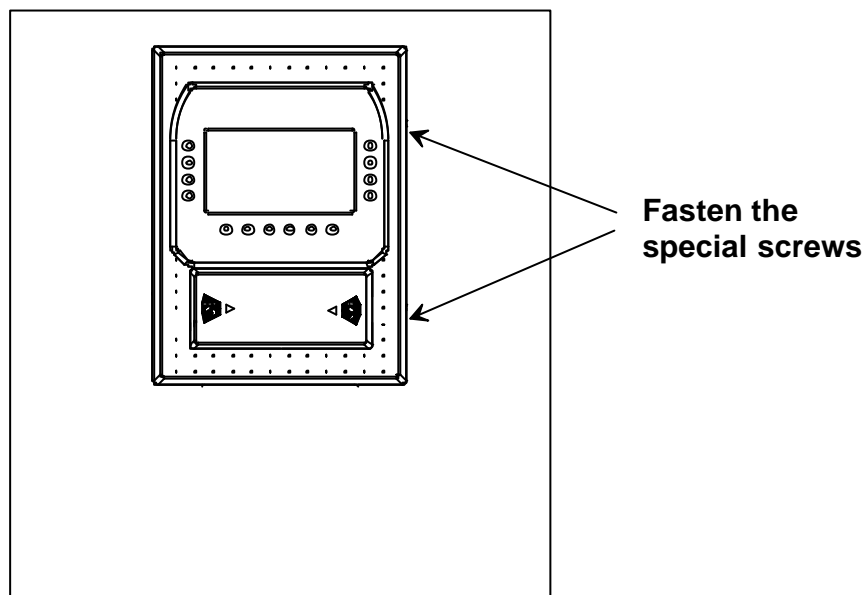

Figure 11: Closing the terminal
4. Fasten the cover with the two special screws (see Figure 11) located on the side of the terminal (use a TORX anti-tamper TX10 screwdriver).